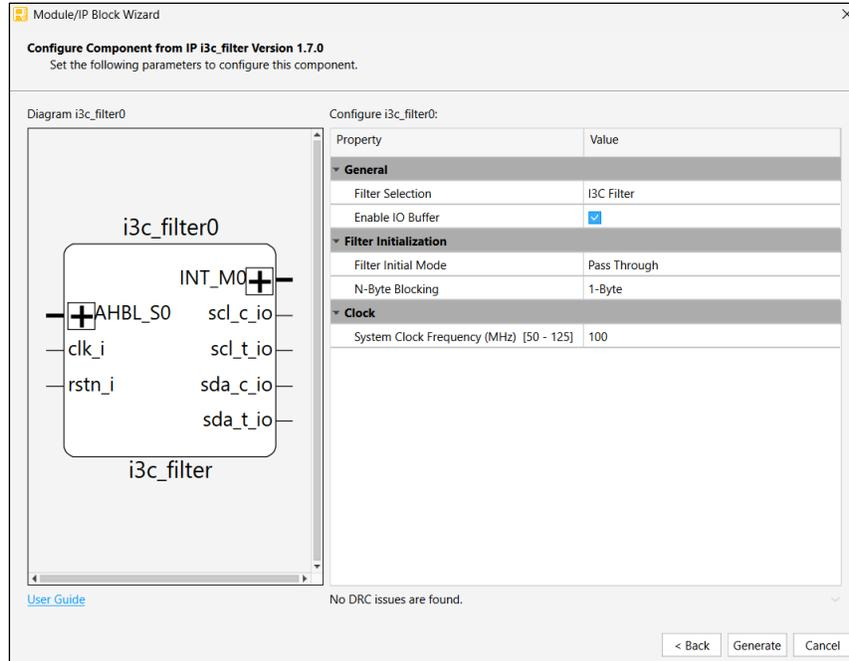

Figure 7.2. IP Configuration
3. In the next **Module/IP Block Wizard** window, customize the selected I3C Filter IP using drop-down lists and check boxes. Figure 7.2 shows an example configuration of the I3C Filter IP. For details on the configuration options, refer to the IP Parameter Description section.